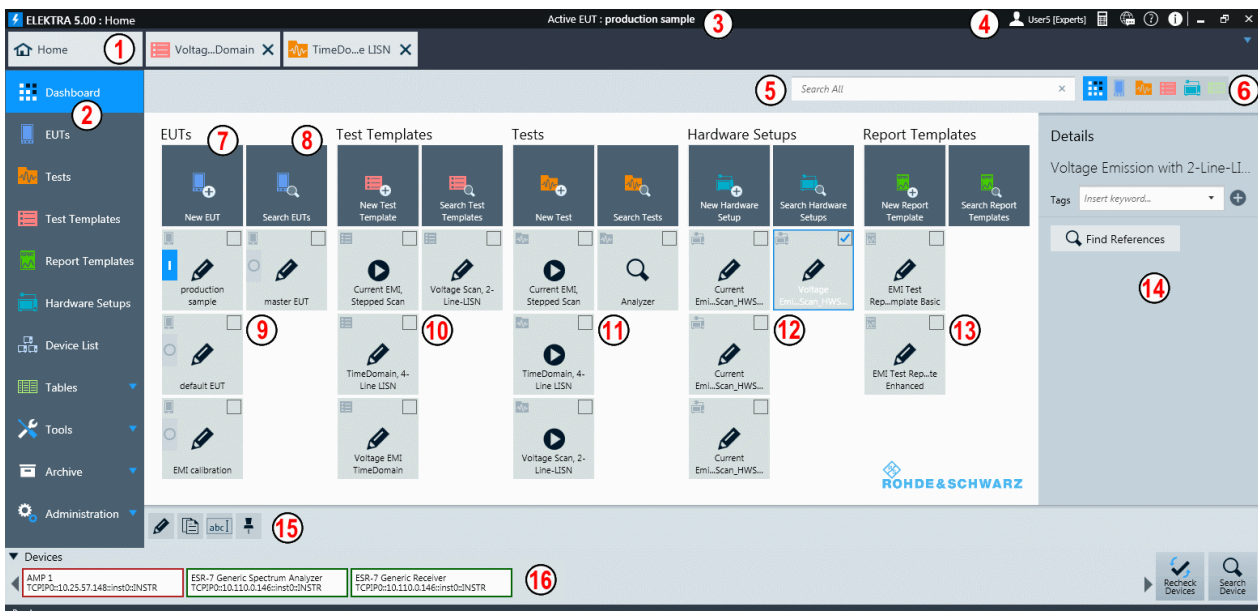

Figure 3-3: The Dashboard dialog
In the home menu (labeled (2) in Figure 3-3), below the "Dashboard" button, you have access to the following software components: